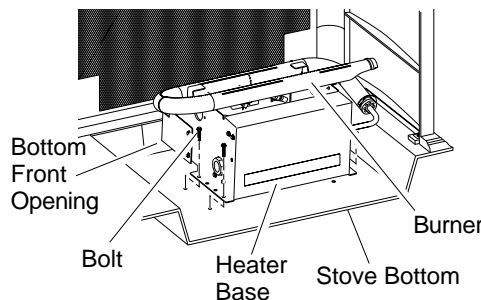

Figure 13 - Placing Heater Base In Stove Cavity (Appearance May Vary Depending on Model)
5. Set gas log heater inside stove. Make sure control knob extension passes through bottom front opening (see Figure 13).
6. Align outside holes on heater base with four (4) mounting holes on the stove bottom (see Figure 13).